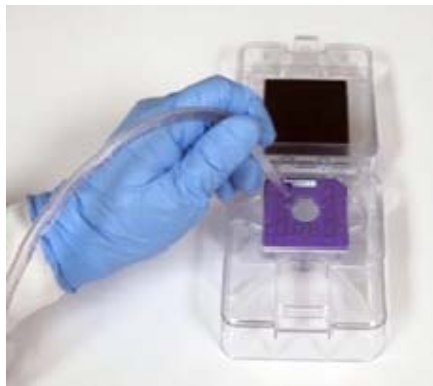

Figure 2. Using a vacuum to aspirate the chip wells is more effective than using a pipette. See page 38 for details.
- 2 Use a pipette tip attached to a vacuum line to thoroughly aspirate all fluid from the chip wells (see Figure 2). For details on how to set up a vacuum line, see page 38.